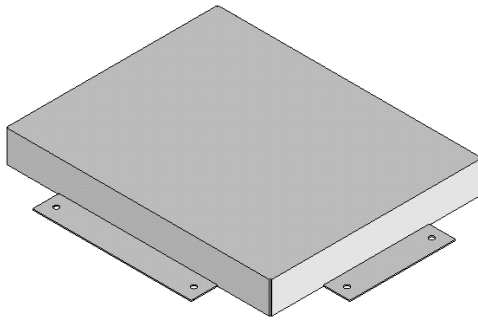

Figure 16-155 Model after extruding the flanges
5. Choose the **OK** button from the **Extrude PropertyManager**. Figure 16-155 shows the model after extruding the flanges.